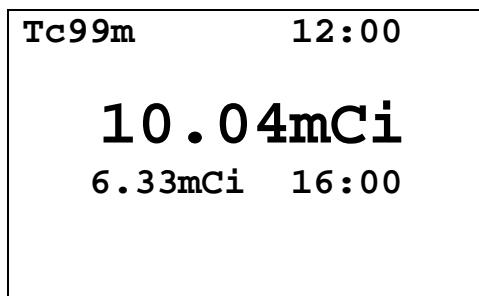

Figure 10-7 Future Activity – Same Day
- press **ENTER**. Figure 10-7 Future Activity – Same Day will appear
If only the time was changed, the new time will be shown as in Figure 10-7 Future Activity – Same Day.